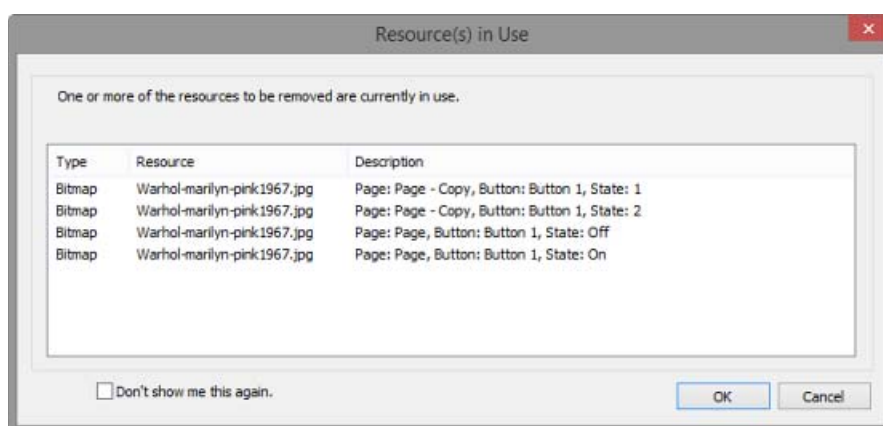

FIG. 18 Resource(s) In Use dialog
- If any of the files selected for deletion are used by the active project, the *Resource(s) In Use* dialog is displayed, with a listing of all files targeted for deletion, as well as the Page(s) on which each file is used (FIG. 18).